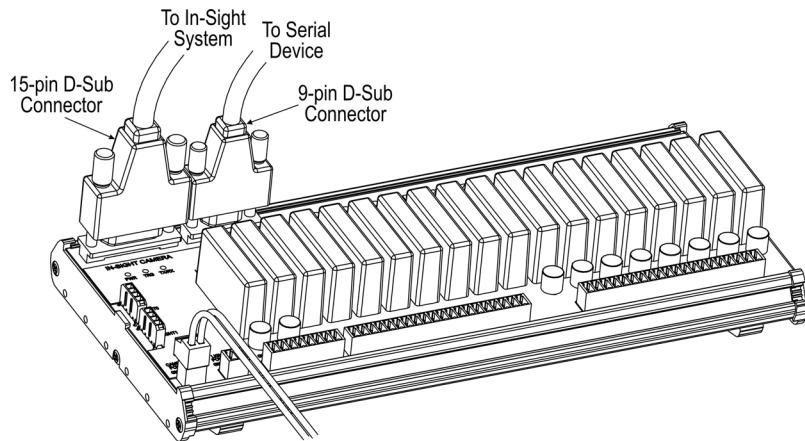

Figure 2-7: Connecting the I/O Cable and Serial Cable
3. Optionally, connect the DB9 male connector of an RS-232 serial cable to the corresponding DB9 female connector on the Expansion Module (Figure 2-7).